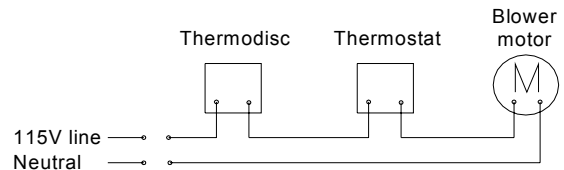

Figure 12
8. Make the electrical connections (Figure 12). The electric power must be 115 volts.